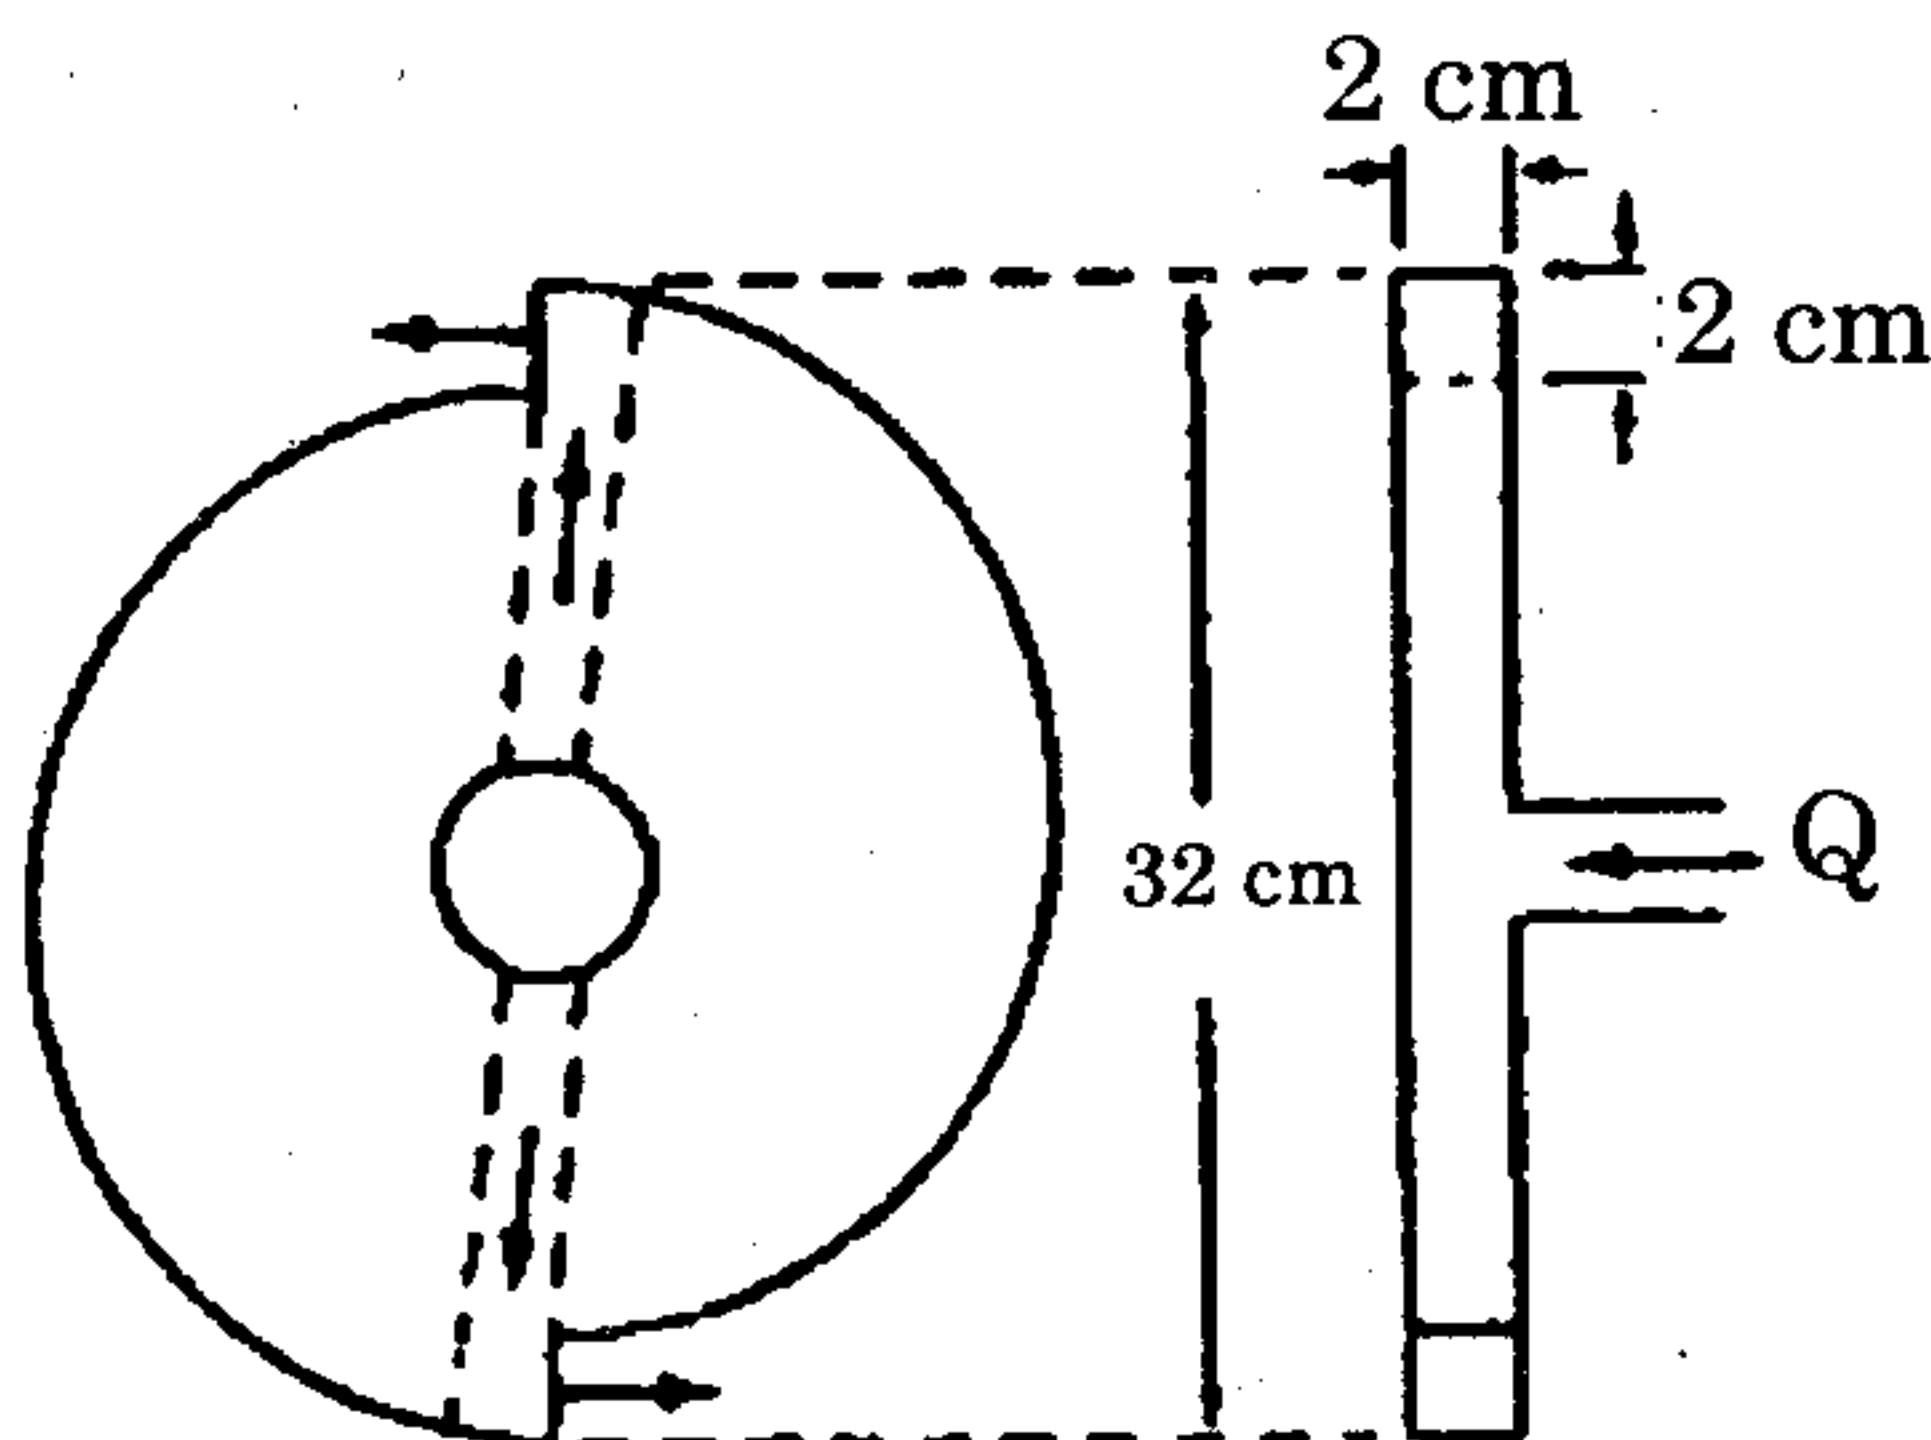

Fig. 2.
- (b) (i) A simple turbomachine is constructed from a disk with two internal ducts which exit tangentially through square holes, as in the Fig. 2. Water at 20°C enters the disk at the center, as shown. The disk must drive, at 250 rev/min, a small device whose retarding torque is 1.5 Nm. What is the proper mass flow of water, in kg/s? (8)